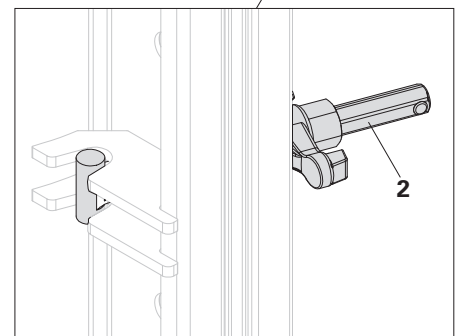

Fig. A4.06
6. Connect the tie yoke (2) in its counterpart and evenly tighten. (Fig. A4.06)